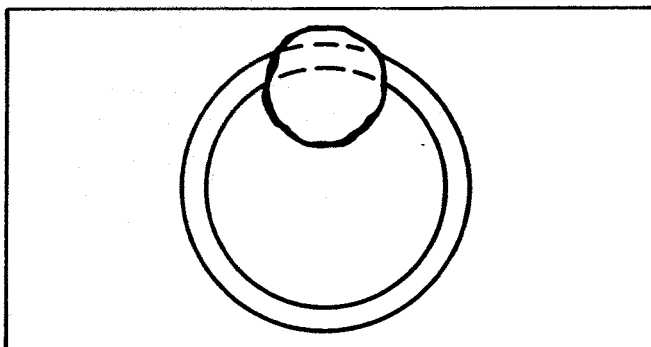

Figure 29
2. Make a short tack weld on the far edge of the hole and let it cool until the orange color disappears. See Figure 29